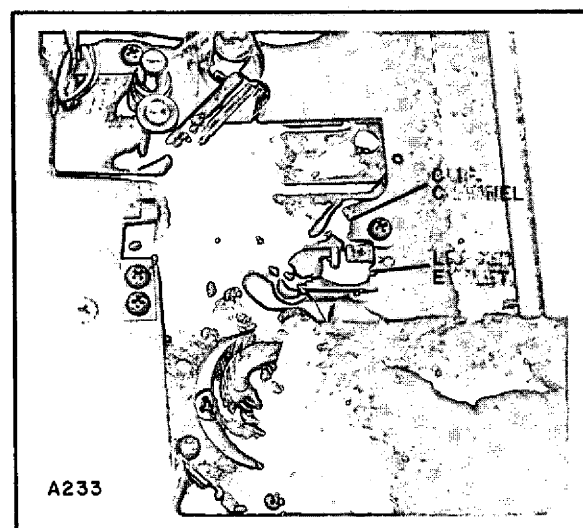

Fig. 4-6. Inserting the Leader Eyelet in the Clip Channel
- h. With the locking lever in the lock position, insert the leader eyelet in the clip channel, as pictured in figure 4-6. Push the leader eyelet through the clip channel.